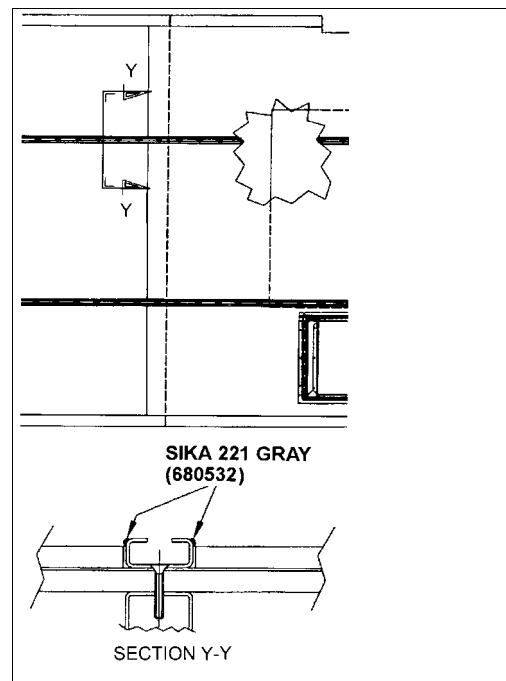

FIGURE 158: APPLICATION OF SIKA 221 GRAY 18641
8. Apply Sikaflex 221 gray sealant (680532) alongside passenger seat fixing tracks (refer to Figure 158).